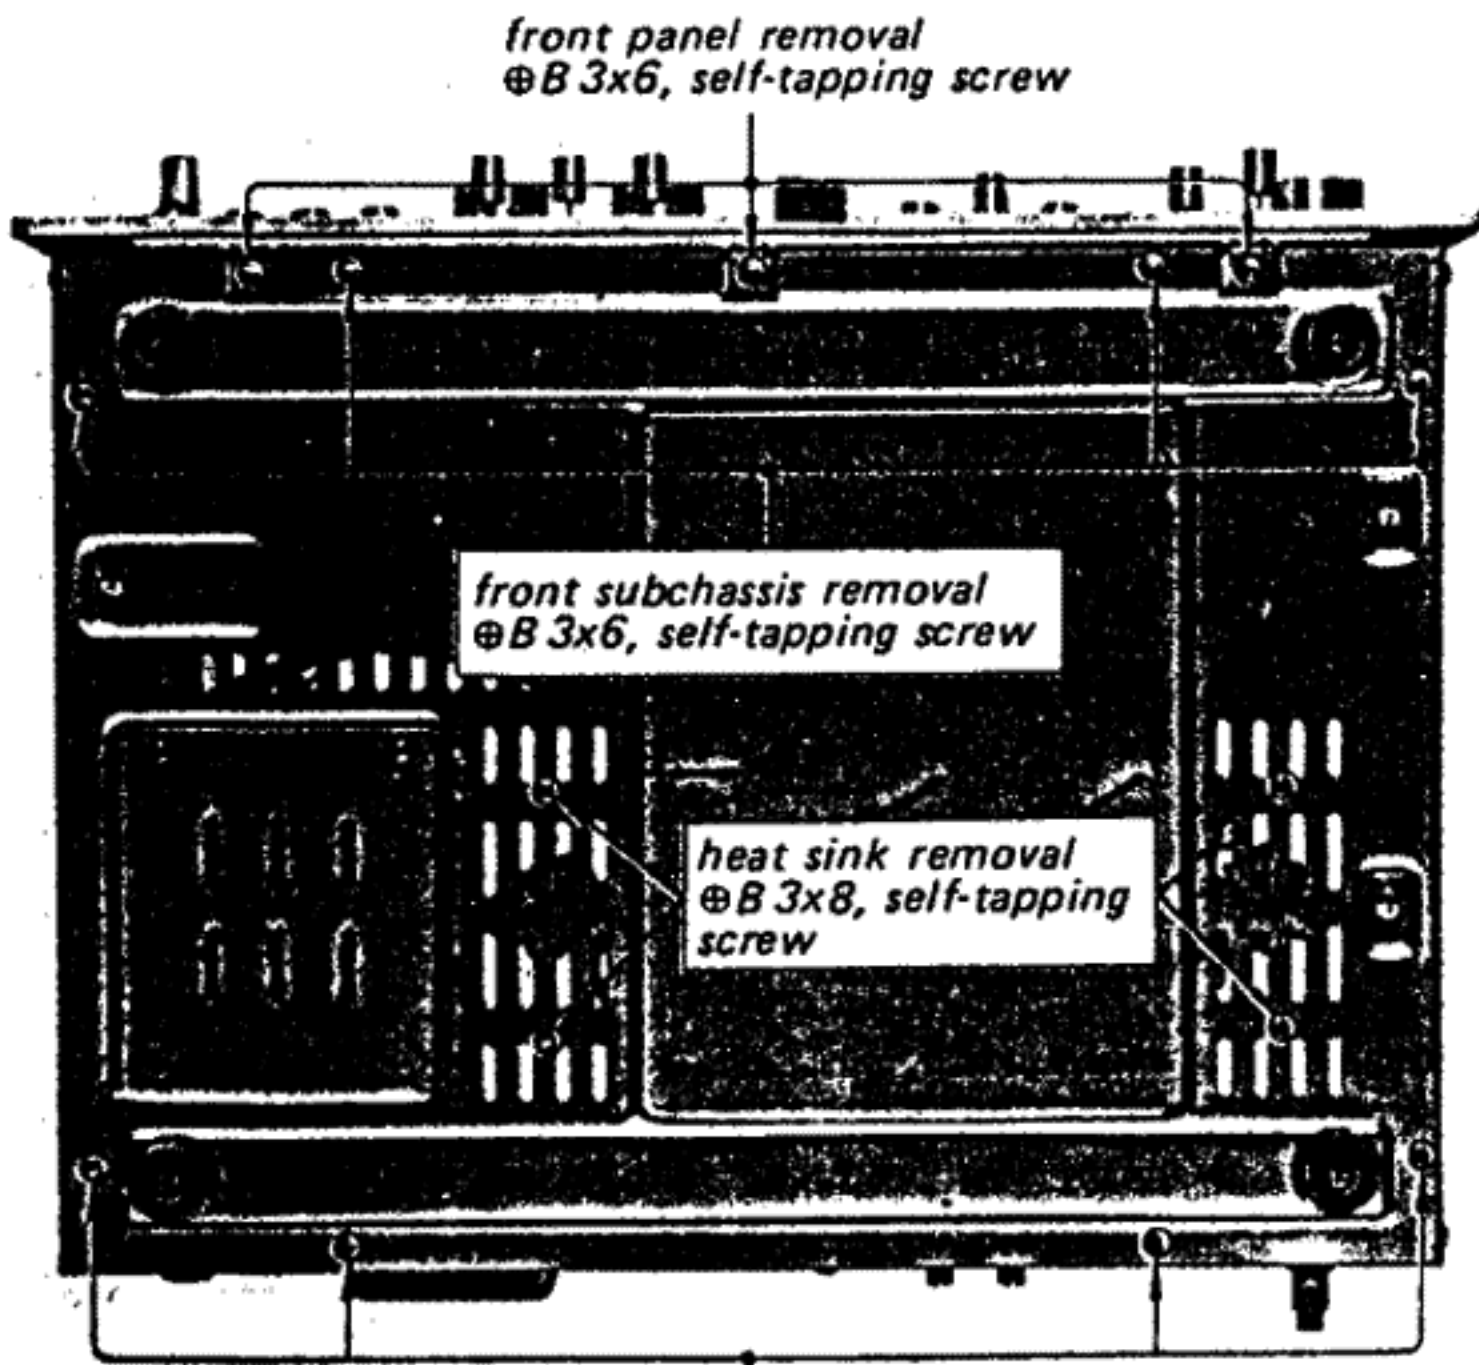
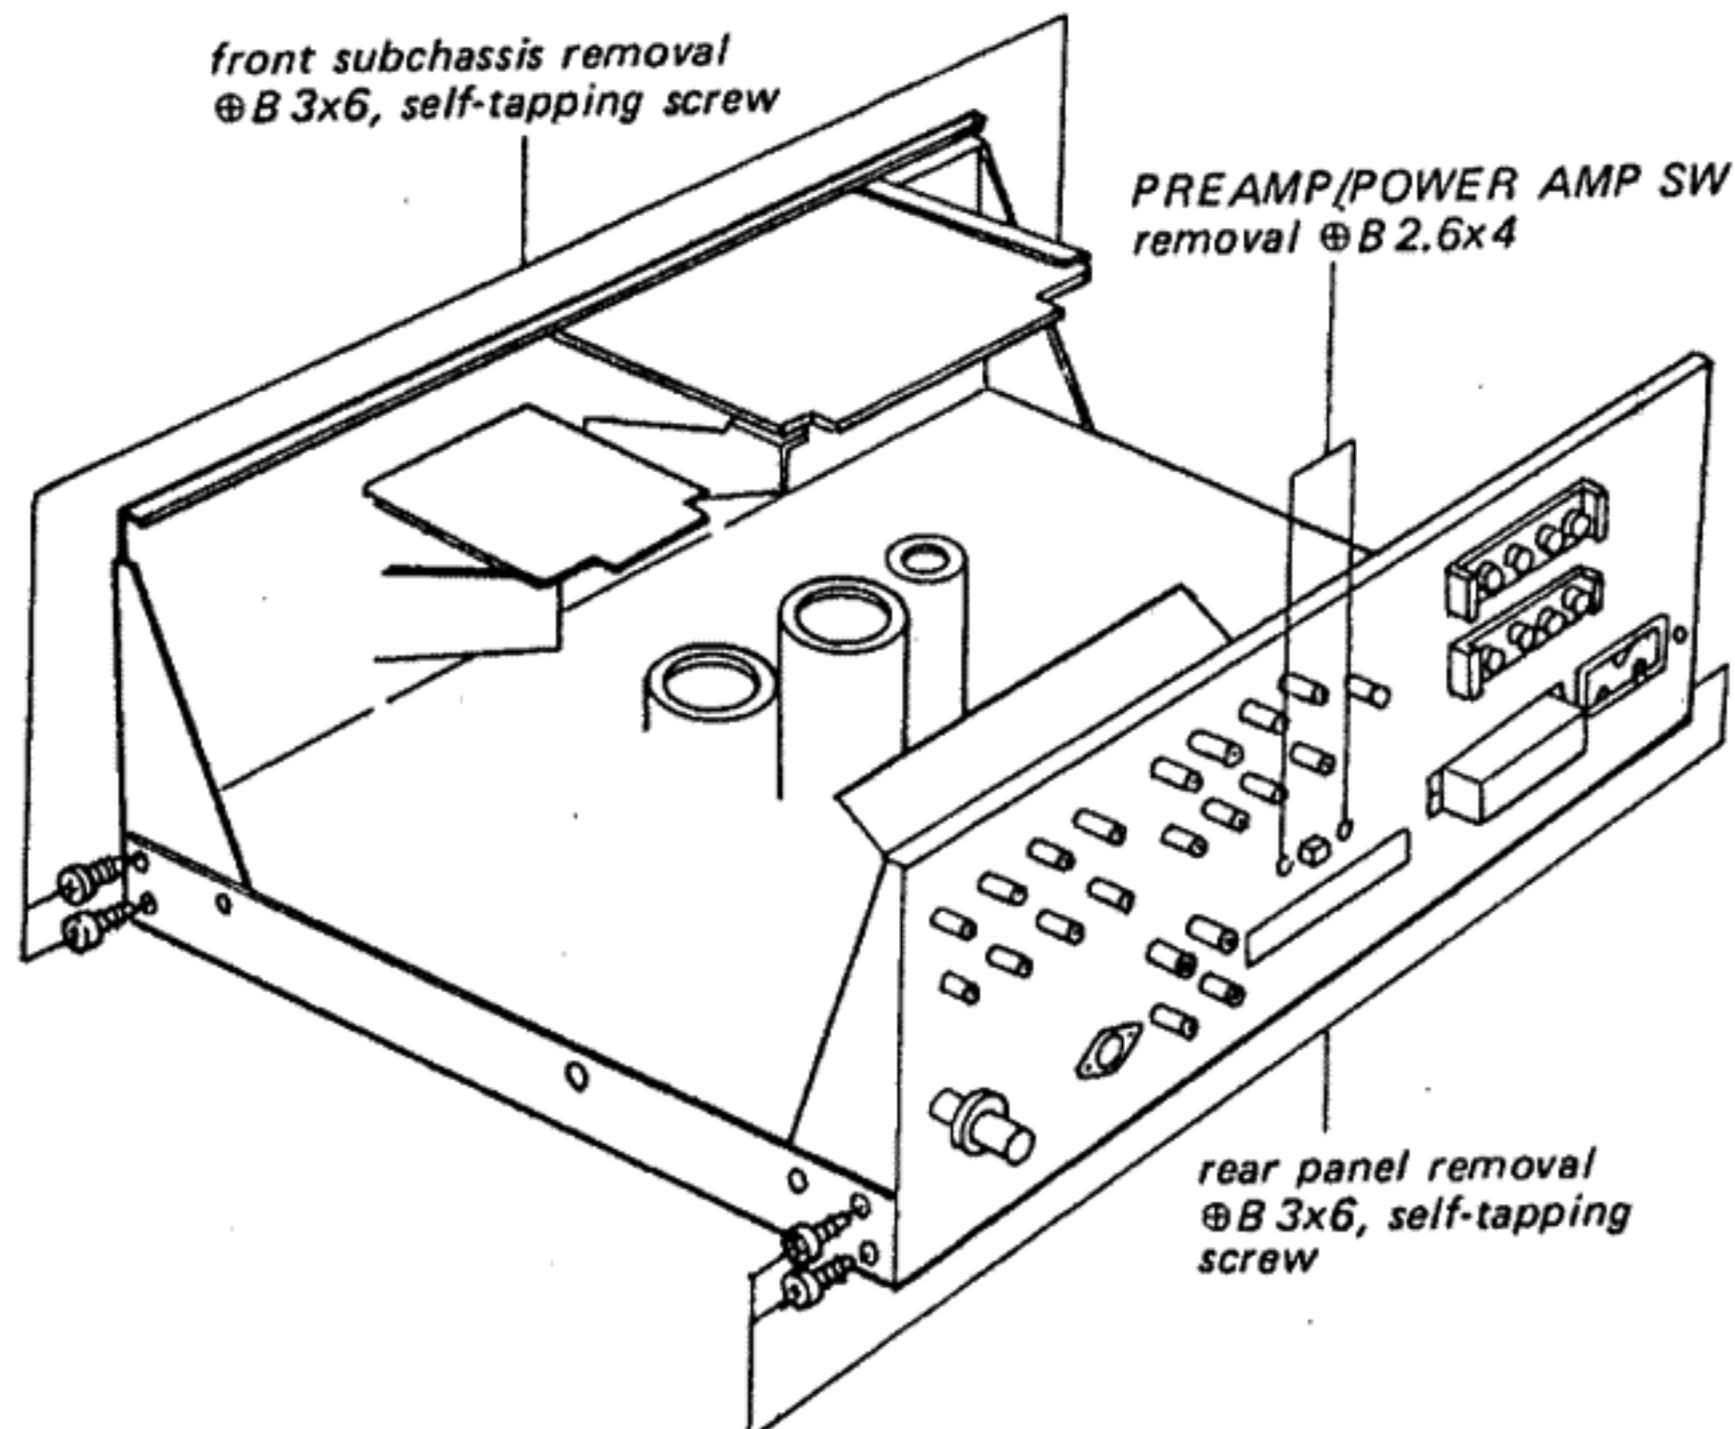

Fig. 2-3. Bottom view
Fig. 2-4. Front subchassis removal
4. Remove the three self-tapping screws (⊕ B 3x6) at the front bottom of the chassis as shown in Fig. 2-3. This frees the front panel.
2. Remove the two self-tapping screws (⊕ B 3x6) at each side of the chassis (see Fig. 2-4) and four self-tapping screws (⊕ B 3x6) at the front bottom of the chassis as shown in Fig. 2-3. This frees front subchassis.
2. Remove the two self-tapping screws (⊕ B 3x6) at each side of the chassis (see Fig. 2-4) and four self-tapping screws (⊕ B 3x6) at the rear bottom of the chassis as shown in Fig. 2-3. This frees rear panel.
2. Remove the two screws (⊕ B 2.6x4) securing the switch to the rear panel as shown in Fig. 2-4.
2. Remove the two self-tapping screws ($\text{B } 3 \times 8$) securing the heat sink to the chassis at the bottom as shown in Fig. 2-3.